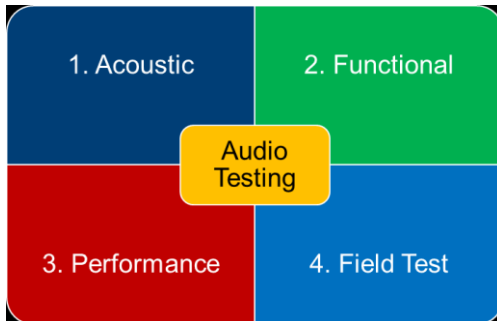

Figure 1-1 Overview of audio testing aspects
Several aspects of audio testing need to be considered to meet the quality requirements of a user equipment (UE), namely, acoustic, functional, performance and field testing as shown in Figure 1-1.